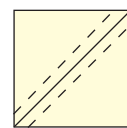
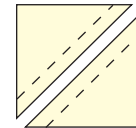
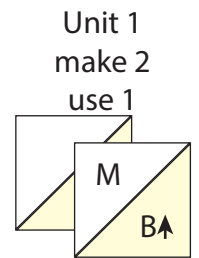

Figure 1
Figure 2
Figure 3
1. Place (1) 10 $\frac{7}{8}$ " **Fabric B** square on top of (1) 10 $\frac{7}{8}$ " **Fabric M** square, right sides together. Draw a line across the diagonal of the top square from the upper right corner to the lower left corner (**Fig. 1**). Sew $\frac{1}{4}$ " away from each side of the drawn diagonal line (Fig. 1). Cut the (2) squares apart on the drawn diagonal line (**Fig. 2**) to make (2) half-square triangles. Trim the half-square triangles to measure 10 $\frac{1}{2}$ " square to make (2) **Unit 1** squares (**Fig. 3**). *Note: Only (1) **Unit 1** square will be used.*